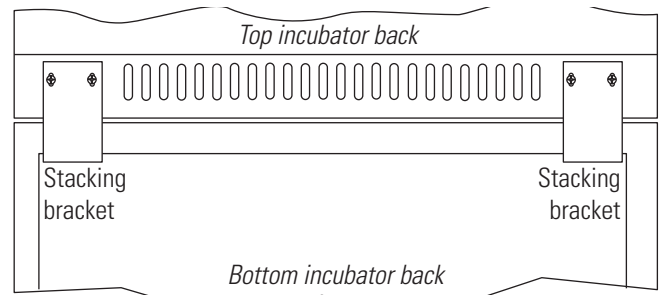

Figure 1-8. Installed Brackets on Back of Unit
6. Align the slotted holes in the brackets with the mounting holes on the back of the top incubator. Secure the brackets with the screws and washers provided in the parts bag. See Figure 1-8.